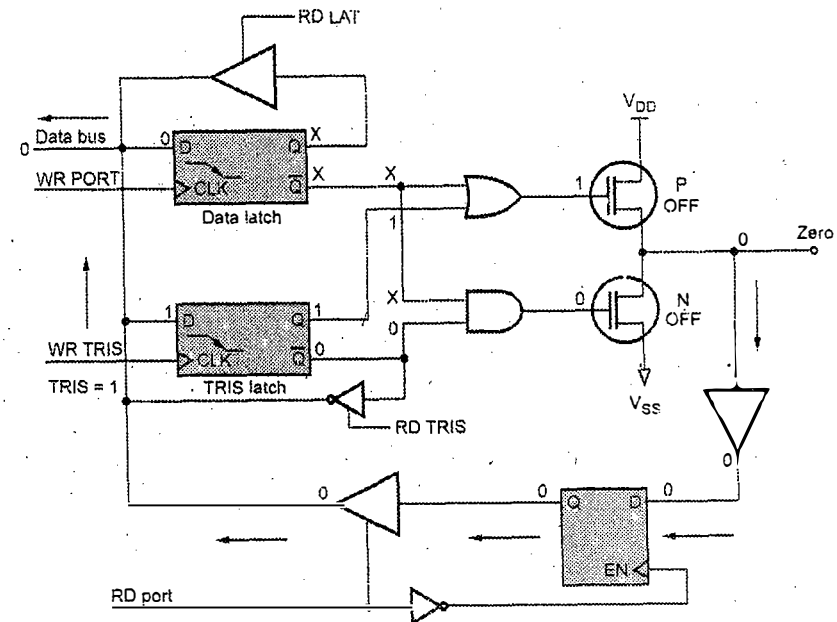

Fig. Q.3.1 Input '0' to pin in the PIC [reading]
**Ans. : Reading from port pin :** The PIC18 family has five ports Port A (6), B (8), C (8), D (8), E (3) with 33 I/O lines. These lines can be used for data transfer between working register 'W' and peripherals and vice versa. Each port can be configured as input or output. Each port has three registers for its operation :
- The configuration of port for reading 1 or 0 from port pin is shown in Fig. Q.3.1 and Q.3.2.